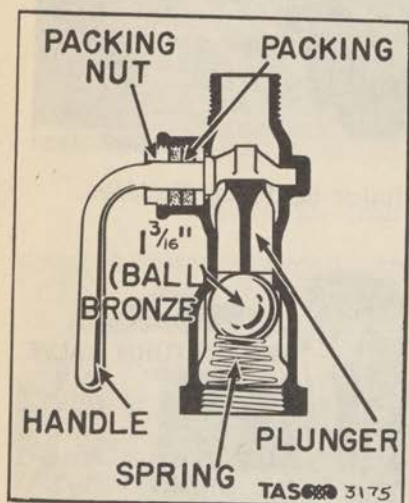

Figure 41. Parts of Free-Ball Cut-Off Valve.
h. Valves. Valves are found on the right of the pump and at the rear of the tank. They must be entirely opened or closed because a partly closed line will easily become clogged with slurry. It is also important that valves be opened and closed in the order given in the operating instructions. The water intake, bleach intake, and tank drain valves are gate valves, while the other four are of the free-ball cut-off type. The free-ball cut-off valve may require cleaning or replacement of parts (see fig. 41). Spare valves are provided with the apparatus.